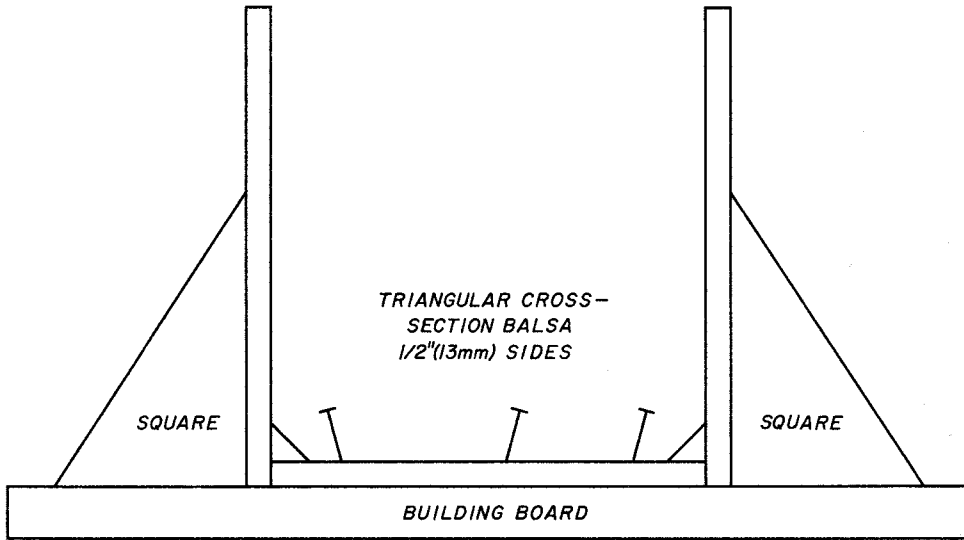

Figure 7-4.
Step 3. Pin one side to the building board. Using homebrew 90-degree balsa squares to obtain a true vertical (see *Figure 7-4*), epoxy two sides to the pinned down side.
Step 4. Epoxy in the triangular cross-section balsa reinforcing strips as shown in *Figure 7-4*. After the epoxy sets, remove pins and assemble and pin down the remaining side on the building board. Repeat Steps 3 and 4.